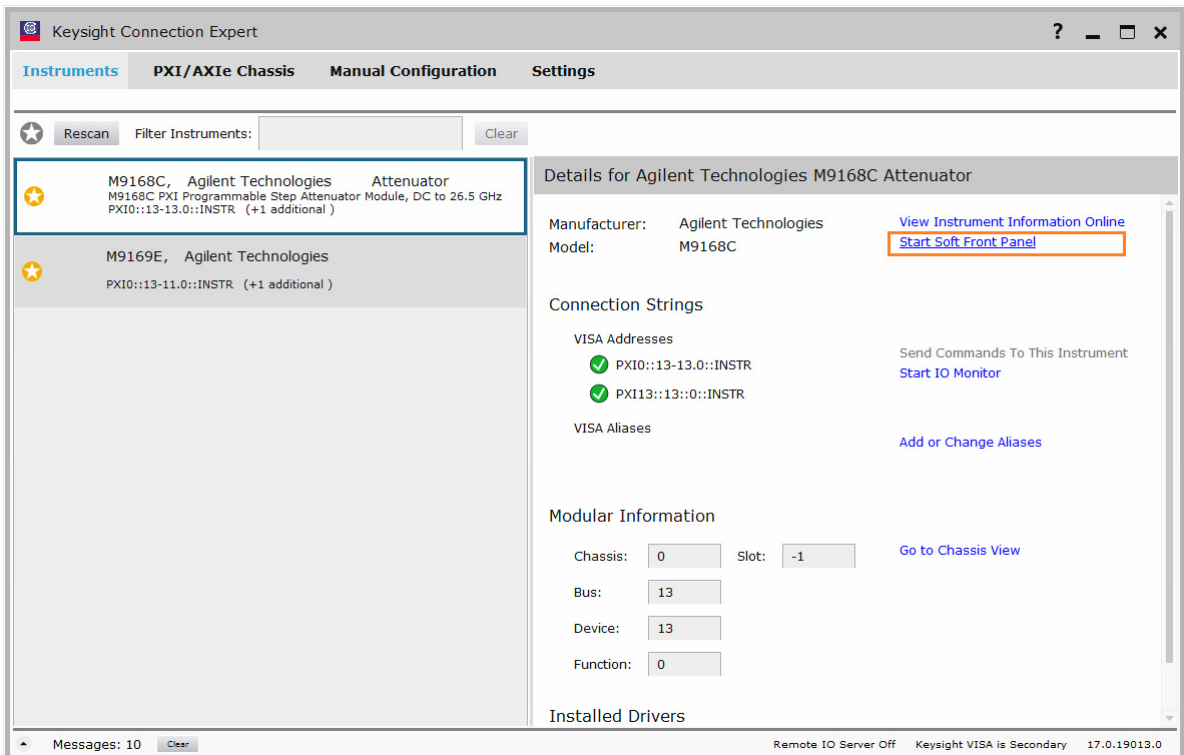

Figure 1-2 Launching the SFP from the Keysight Connection Expert
- 2 Launch the soft front panel (SFP) software from **Start > All Programs > Keysight > M9168x > M9168x SFP** or from the Keysight Connection Expert. On the Keysight Connection Expert, select the respective M9168C/68E/69E module and select **Start Soft Front Panel** (as shown in Figure 1-2) to launch the SFP.